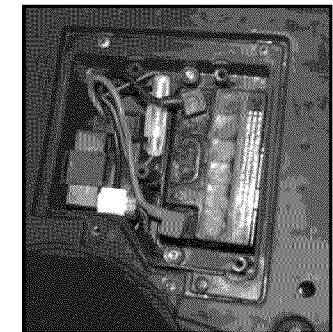

Figure 26
- Locate battery compartment on scooter. The battery compartment is located under the floorboard. (see figure 26)